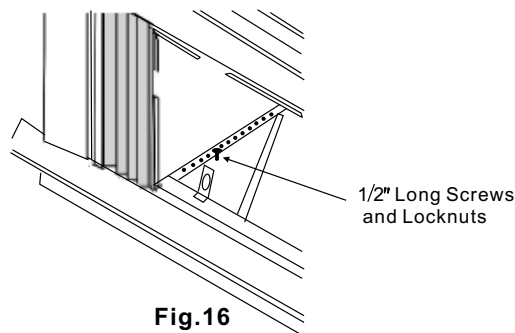

Fig.16
3. Install support brackets(with sill angle brackets attached) to correct hole in bottom of cabinet as shown in Fig. 16.